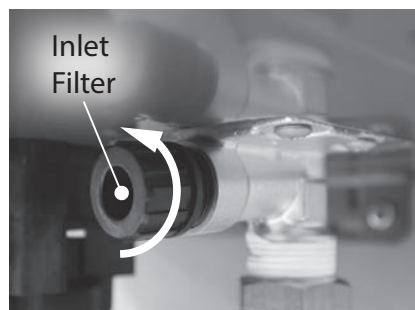

Figure 184 - Removing the inlet filter
- 8 Locate and remove the inlet filter as shown in Figure 184 to drain any residual water left in the system. Place a bucket or pan underneath inlet filter to collect water during removal.